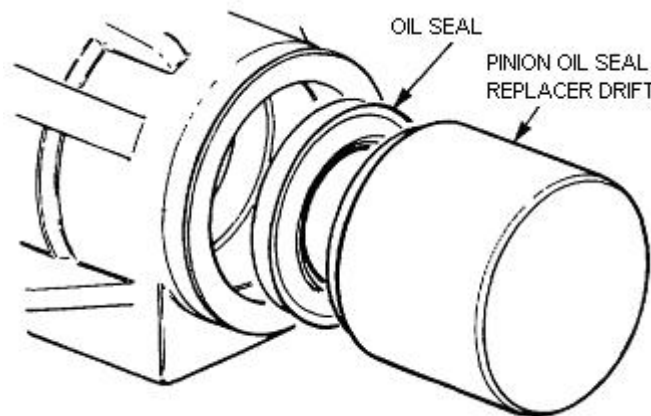

Figure 81 Pinion Oil Seal Installation
- b. Using the pinion oil seal replacer drift (Table 3, Serial 5), insert the new oil seal with the seal lips towards the pinion (Figure 81).